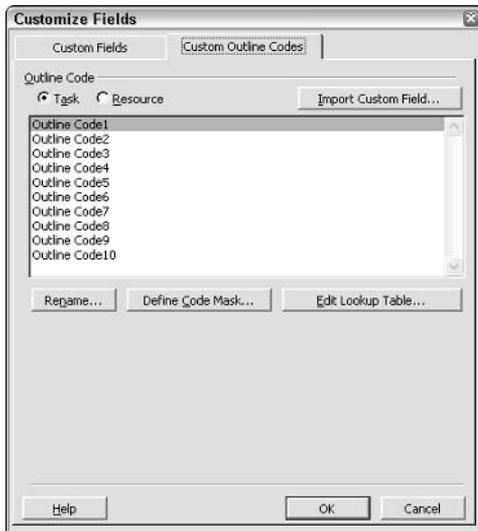

Figure 7-26: Select an outline code to customize.
1. Choose Tools⇨Customize⇨Fields. Project displays the Customize Fields dialog box, as shown in Figure 7-26. Click the Custom Outline Codes tab.